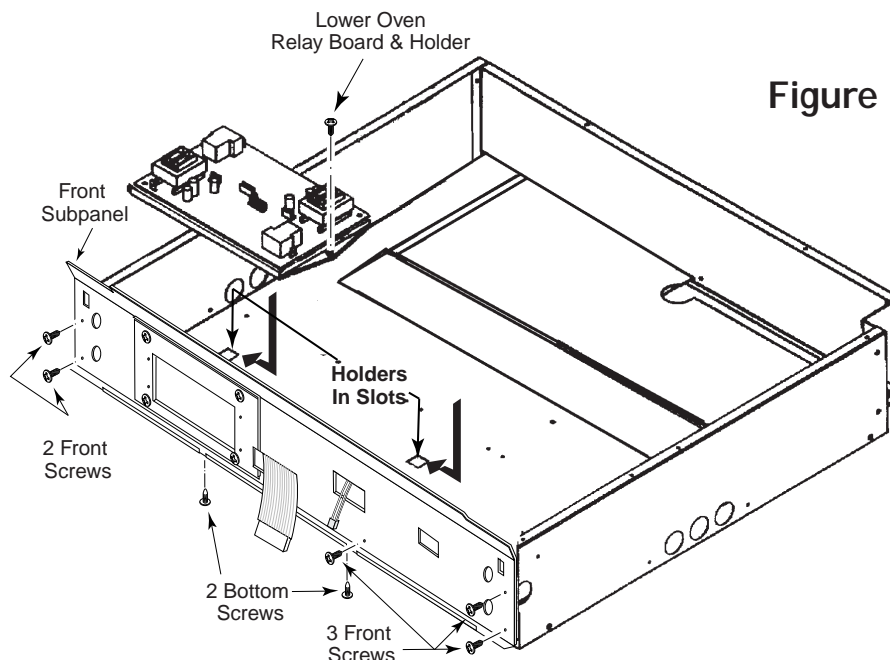
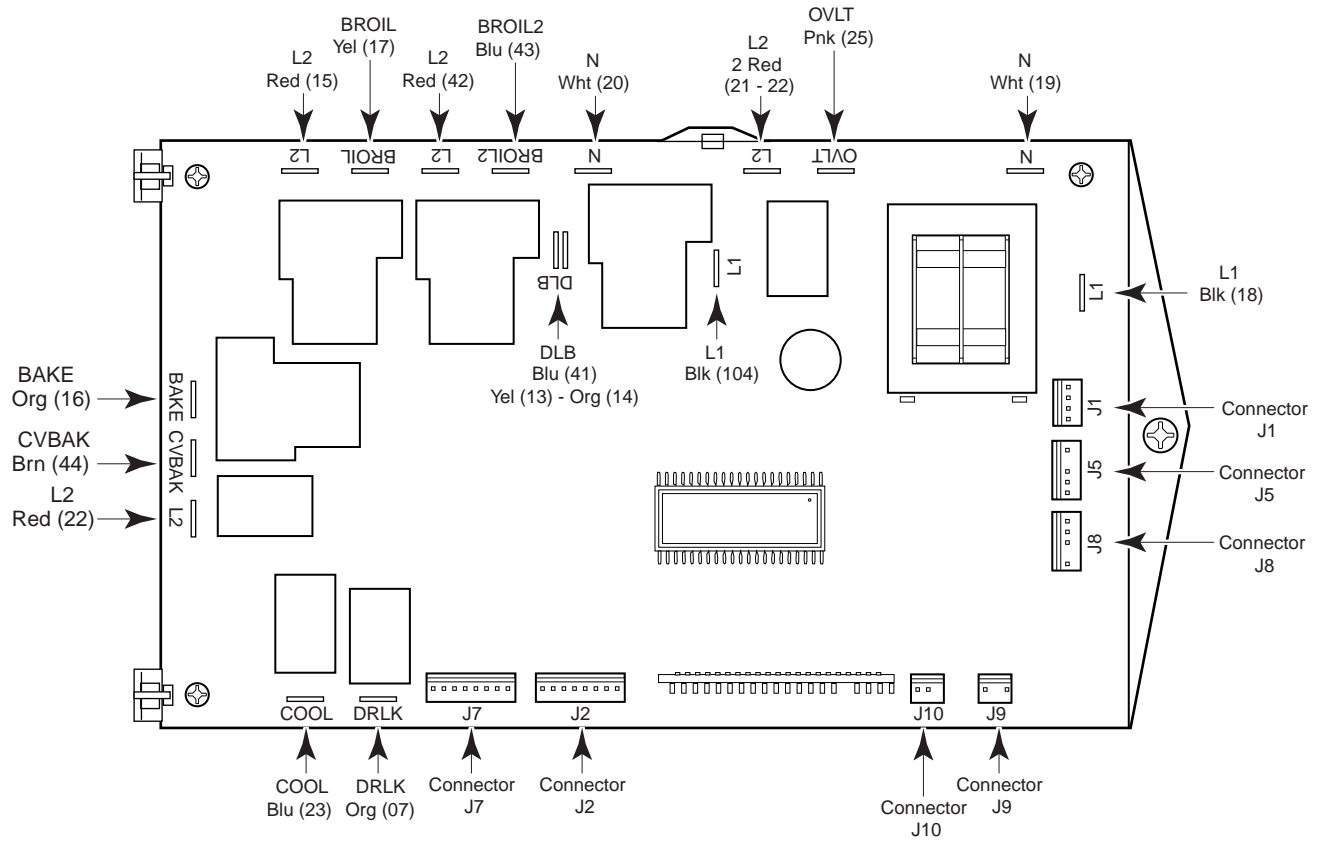

Figure 16
Figure 17
Refer to Figure 16 below, and Figure 17 on the next page, for the following steps.
4. Remove the front subpanel (see Figure 16).
5. Remove the wiring from the relay board (see Figure 17).